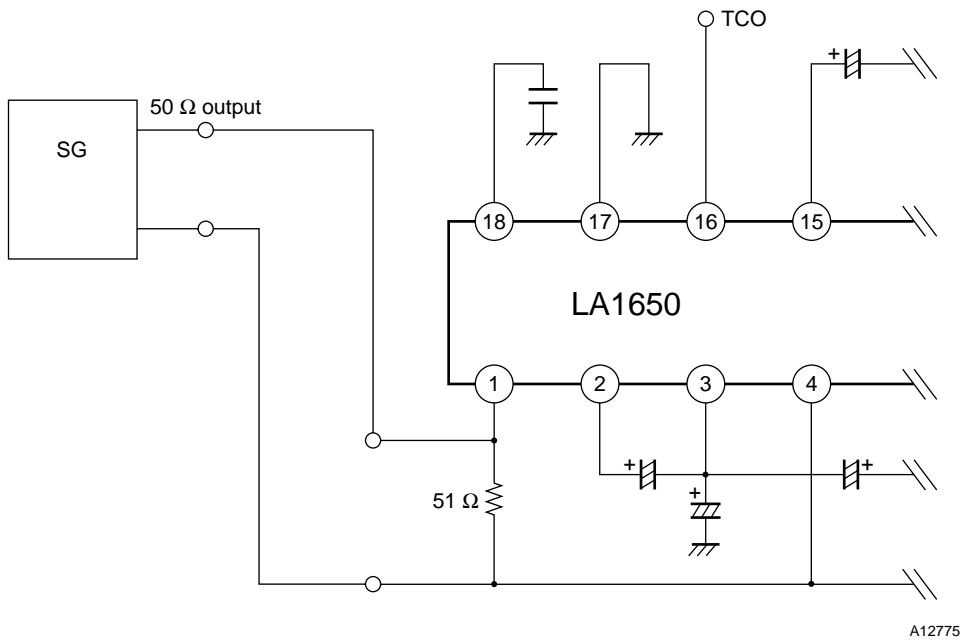
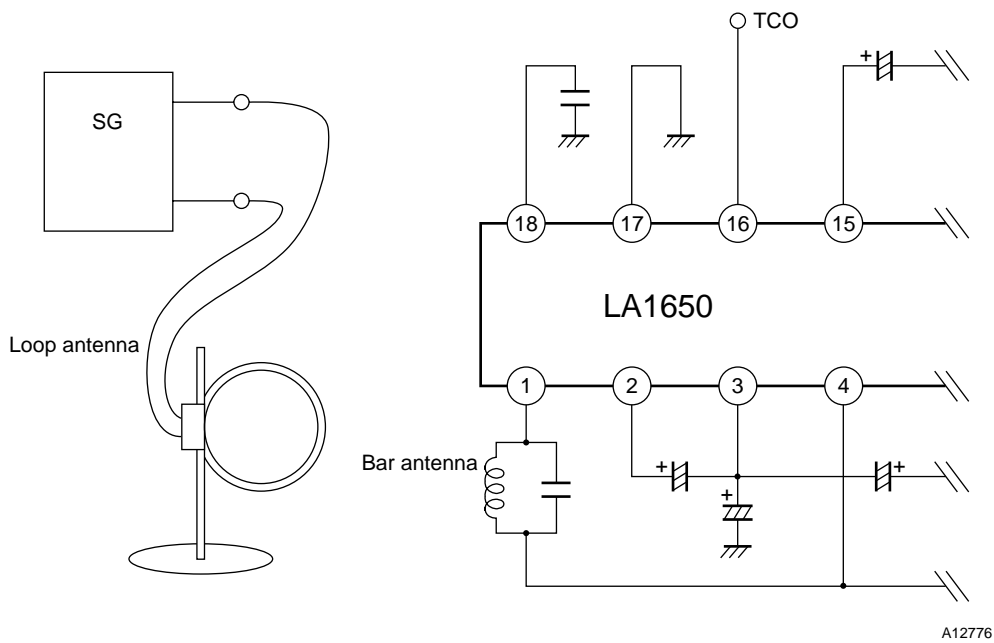

Figure 1 Direct Signal Generator Input to the IC
Figure 2 Antenna to Antenna Signal Input
Two relatively simple techniques for measuring the sensitivity index are (1) to input the signal generator output directly to the IC (see figure 1), and (2) to use an antenna as shown in figure 2.